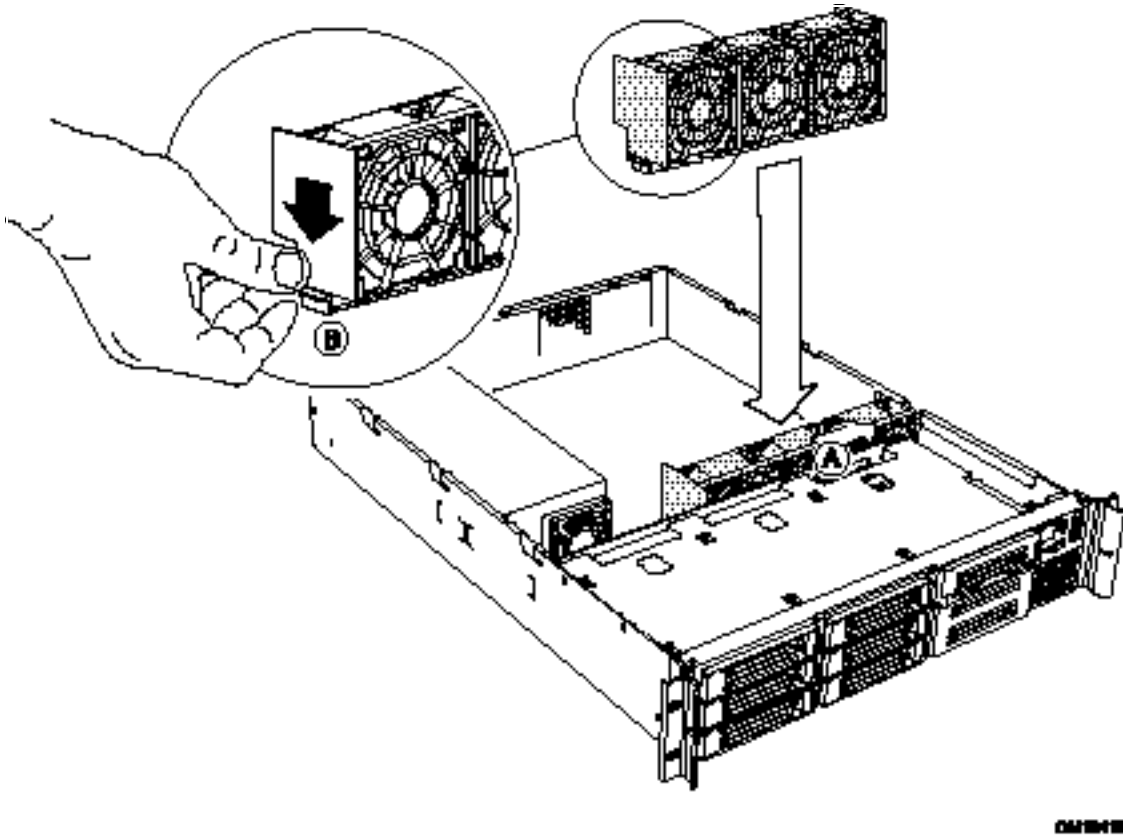

Figure 14. Installing the Fan Assembly
2. Lower the fan assembly as shown in Figure 14 until it is just above the chassis floor.
4. While pressing down on the fan assembly, slide it in the direction of arrow (A) until latch (B) snaps in place.